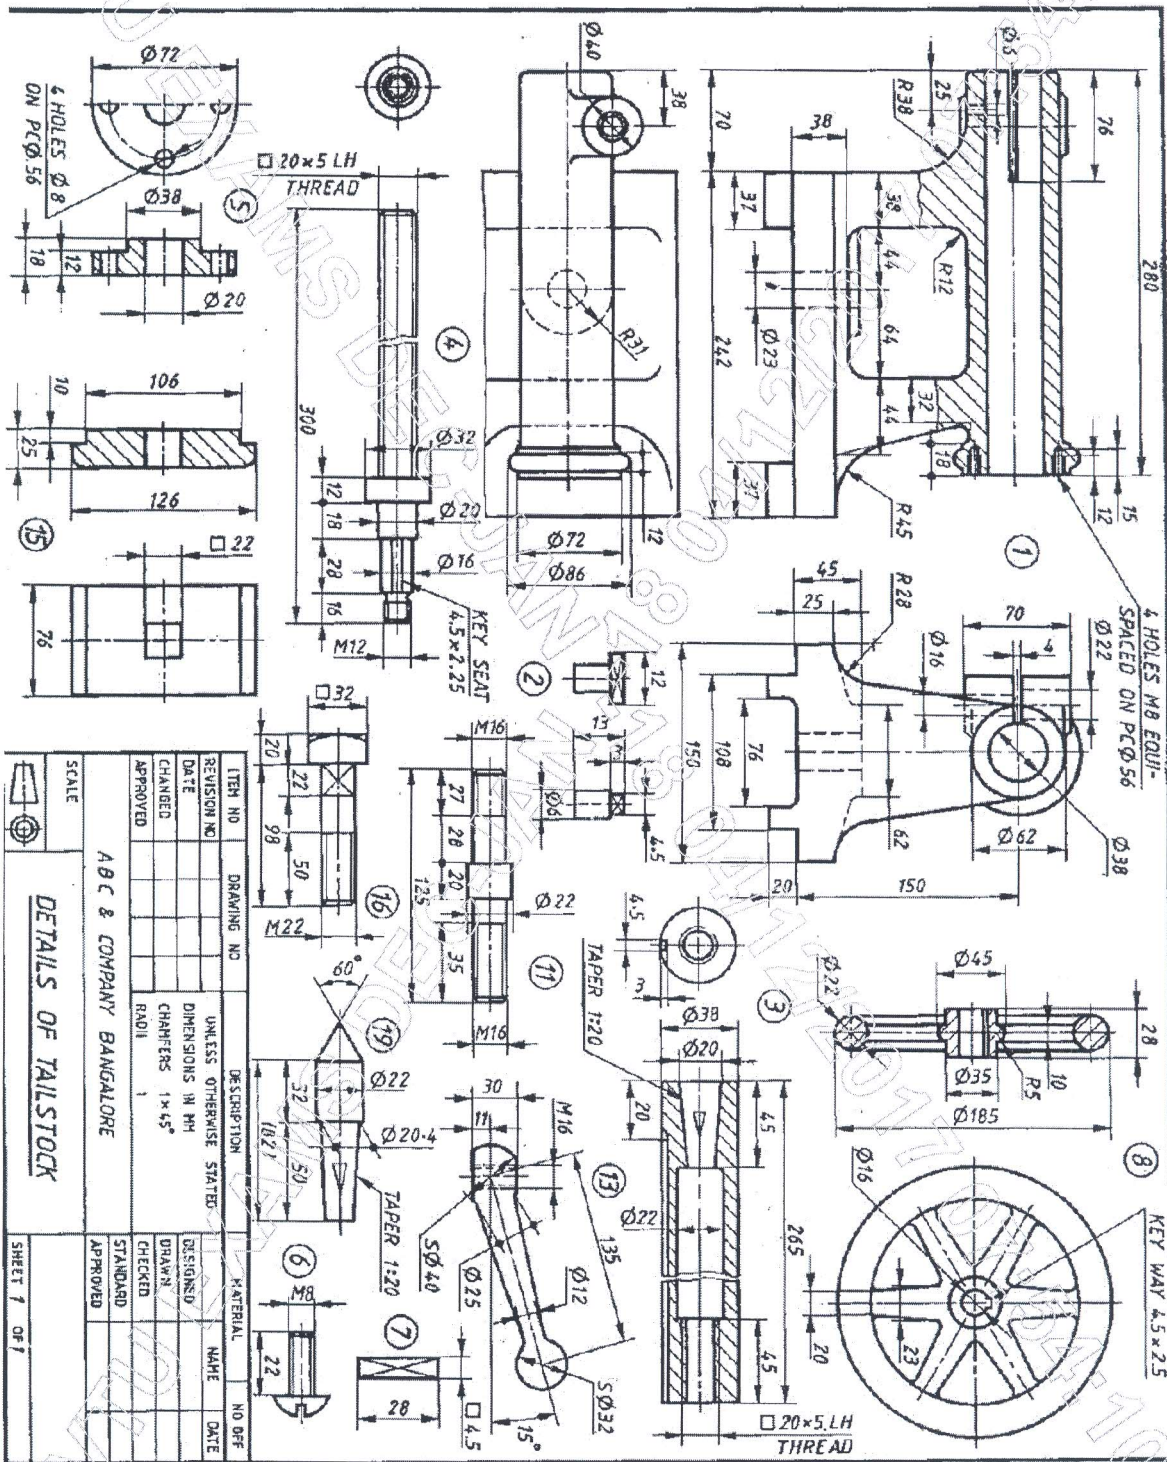

Figure 2. "Tail Stock of Lathe"
- Q.No.6** Details of "Tail Stock of Lathe" are shown in following Figure 2. Assemble the parts and draw the following views.